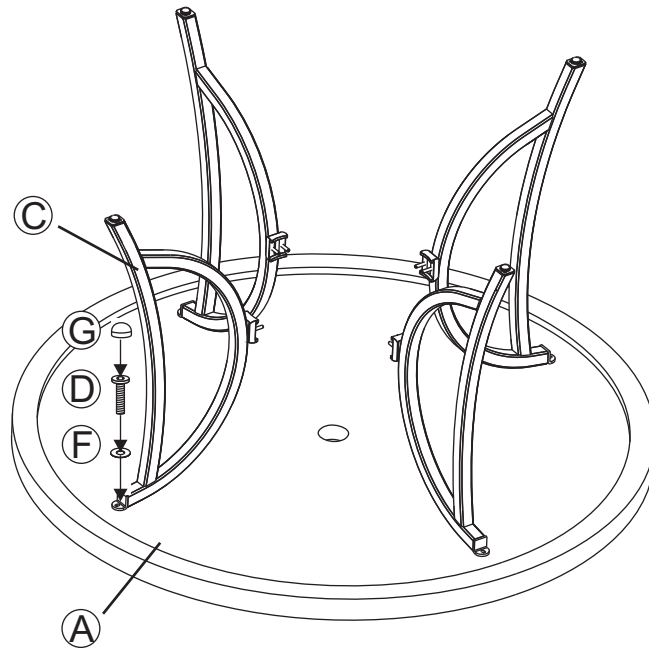

Figure 1
Step 2: Working from behind the chair, have another person stand in front of the chair and position the sling seat frame in between the arms of the seat base as shown in **Fig.1** so that the holes on both sides of the upper portion of the seat frame back align with the fixed nut holes in the seat base.
- 1 Place the table top upside down on a flat, non-abrasive surface. Attach a table leg to the table top by using the bolts and washers as shown in the **Figure 1**. Guide the bolts through the holes in the table leg, into the pre-drilled holes in the table top. **Hand tighten 2-3 turns only.** Repeat for the other three legs.